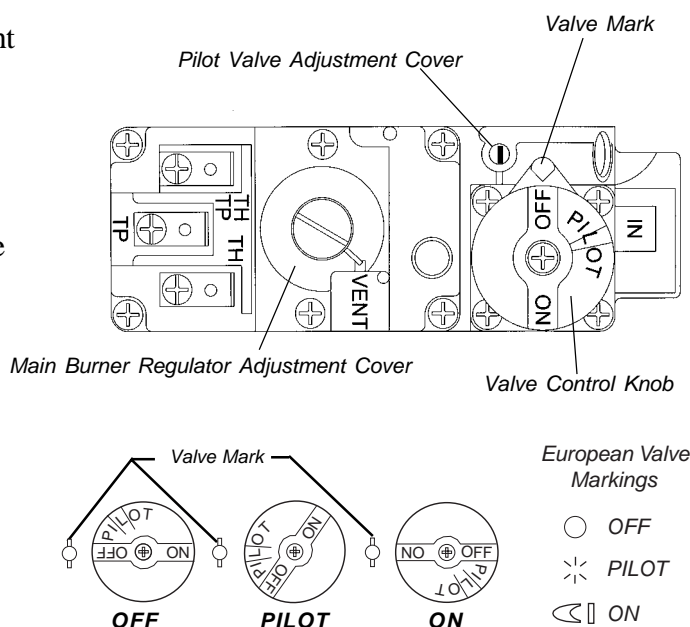

Figure 6. Gas Control Valve & Knob Positions
4. Turn the gas control valve knob to align the PILOT setting with the valve mark. Figure 6 shows the possible gas control valve knob positions.